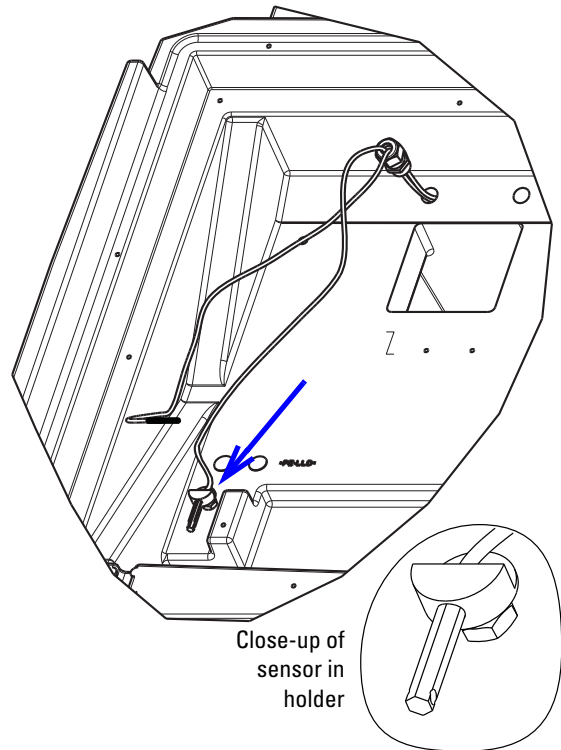

Figure 9: Removing rear wall sensor
4. Slide the rear wall sensor out of its plastic holder (located behind the power supply plate, Figure 9 below).